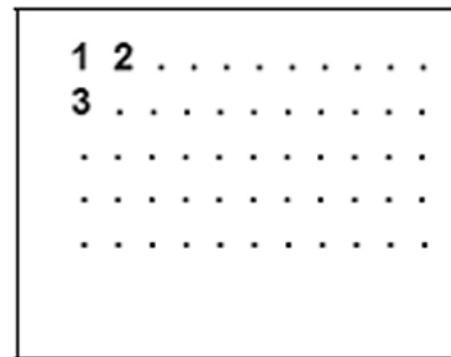

Figure 7-79
- 11.) Move the mouse to the BB positioned to the right of number 1 and press **2**.(Figure 7-79)
12.) Move the mouse to the BB directly below 1 and press **3**. (Figure 7-79)